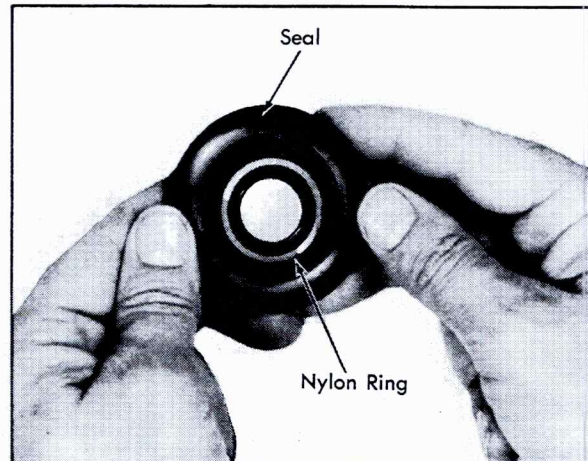

Fig. 3-12 Installing Nylon Ring on Seal
b. Place nylon ring over center of puckered hole, Fig. 3-12.